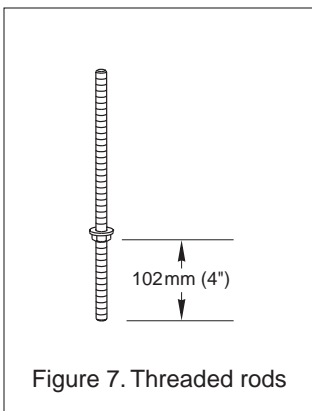

Figure 7. Threaded rods
length of the rod will be used to fasten the transducer to the fairing at a later time.) Screw a nut onto the marked length of each threaded rod *above* the 102mm (4") line drawn (see Figure 7).
**Note:** *Be sure* to apply marine sealant to the threads under the nuts. Back each nut off 13mm (1/2"). Apply sealant to the threaded rods and return each nut to the marked location on the rod (see Figure 7).